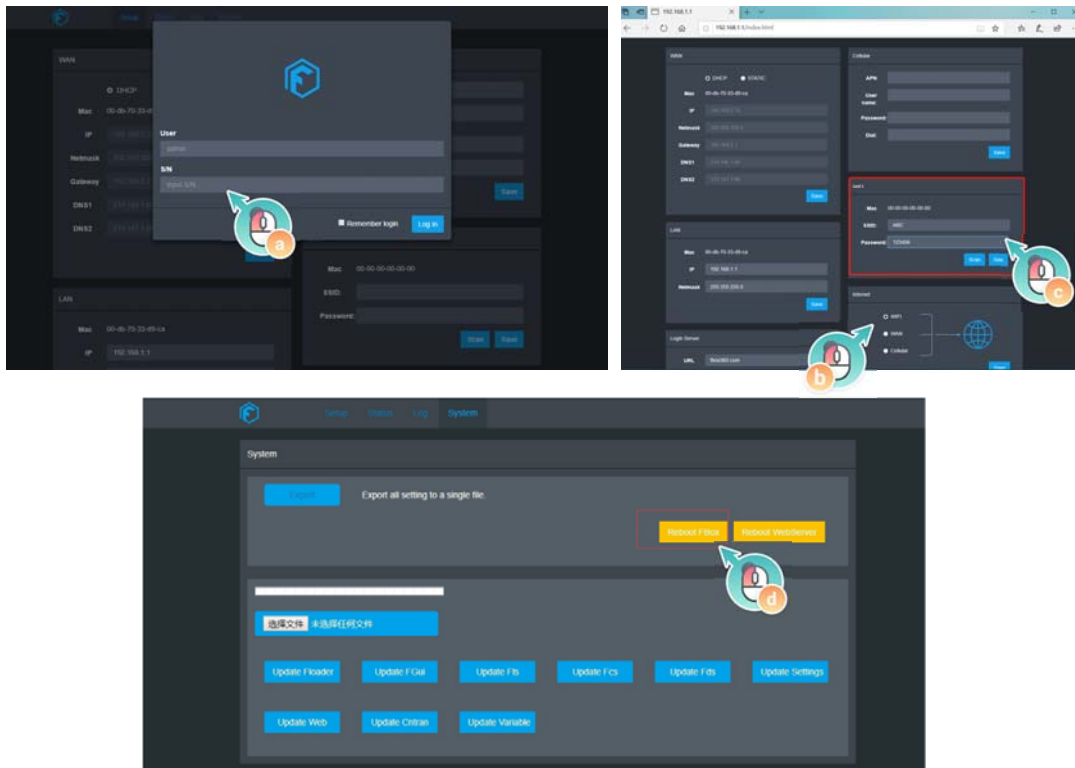

Figure 7-53 Setup steps
Step 2: Enter user name and password (User: admin; S/N: serial number) in the login window, click "Log in" icon to complete login; (Step a in Figure 7-53);
Step 3: In Internet window area of Setup tab, check "WIFI" option and click "Save" icon to save; (Step b in Figure 7-53);
Step 4: In WIFI window area of Setup tab, fill in the SSID and password, and click "Save" icon to save; (Step c in Figure 7-53);
Step 5: Switch to the System tab, click "Reboot FBox" icon, restart remote control box to make the settings take effect. (Step d in Figure 7-53).